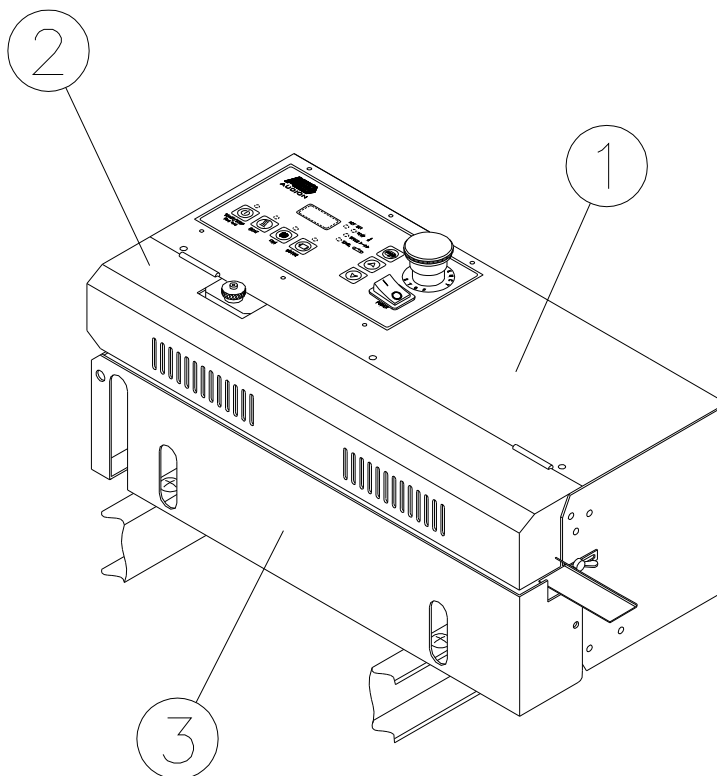

Fig. 4
- See fig. 4.
- Remove the upper cover (1).
- Open the front cover (2).
- Remove the back cover (3).